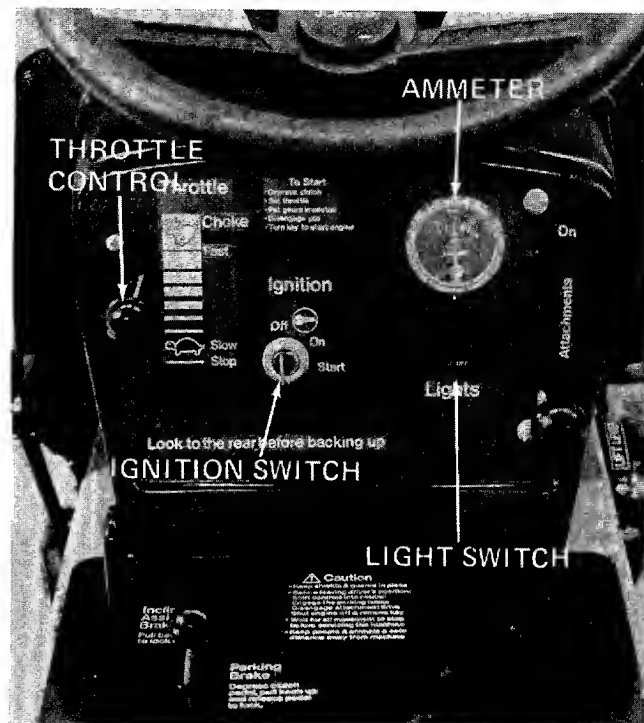

FIGURE 5.
The ignition switch is located in the center of the dashboard. Turn the key to the "START" position to start the engine. When the engine is running leave the key in the "ON" position. To stop the engine turn the key to the "OFF" position. See figure 5.
The throttle control is located on the left side of the dashboard and is used to regulate the engine speed. See figure 5. The engine should be operated from 3/4 to full throttle (FAST) when operating any equipment that uses the tractor engine as a source of power such as the mowing deck, snow thrower or rotary tiller. See figure 5.
The head lamps are operated by pushing the light switch located on the dashboard. The head lamps will only operate when the engine is running. See figure 5.
The maximum charging rate is 3 amps. The head lamps operate directly from the engine alternator and do not register on the ammeter. See figure 5.
4. Set the throttle control in the "FAST" position. See figure 5.
5. Turn the ignition key to the right to the "START" position. After the engine starts release the key. It will return to the "ON" position. See figure 5.